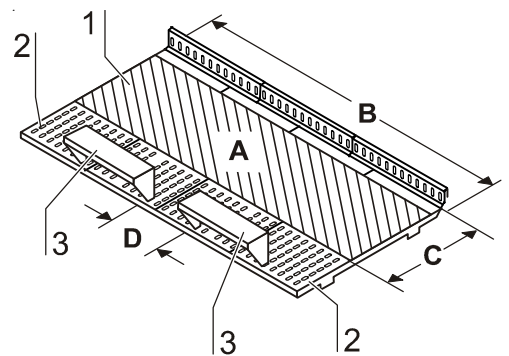

Fig.9
**Fig. 9:** The working area **A** for optimal product protection extends over the entire width **B** and depth **C** of the workplate [1]. The two armrests [3] are positioned centrally to the working area at distance **D** (20 cm) from each other. For attachment, each armrest is inserted into the first perforation track [2] of the workplate.